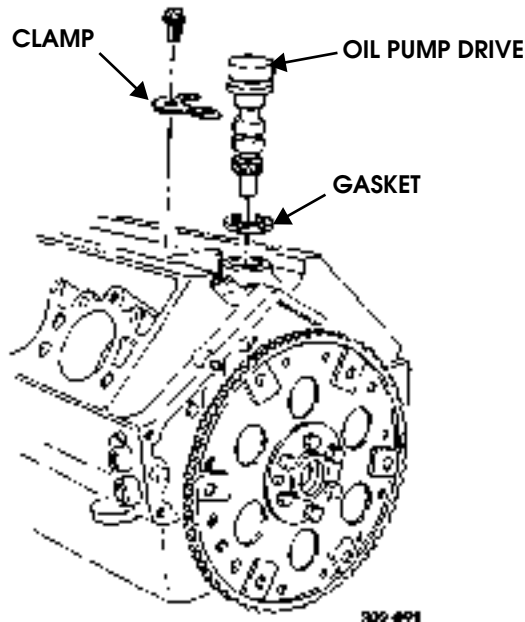

Figure 2-94: Oil Pump Drive Removal
6. Lift and remove oil pump drive from block (Figure 2-94).